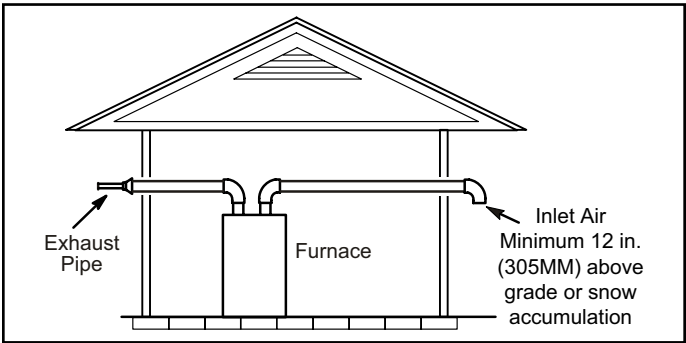
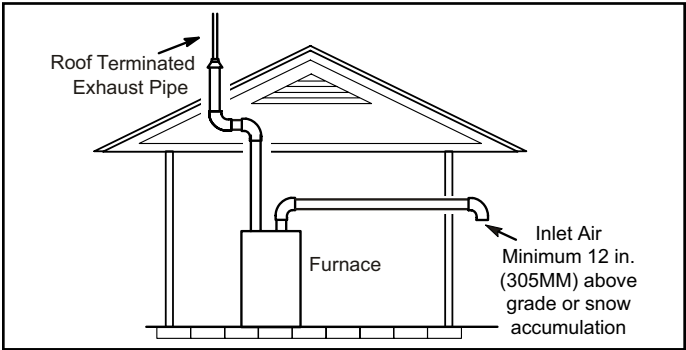

Figure 37. Exiting Exhaust and Intake Vent
Figure 38. Exiting Exhaust and Intake Vent
- 1. Intake and exhaust terminations are not required to be in the same pressure zone. You may exit the intake on one side of the structure and the exhaust on another side (Figure 37). You may exit the exhaust out the roof and the intake out the side of the structure (Figure 38).